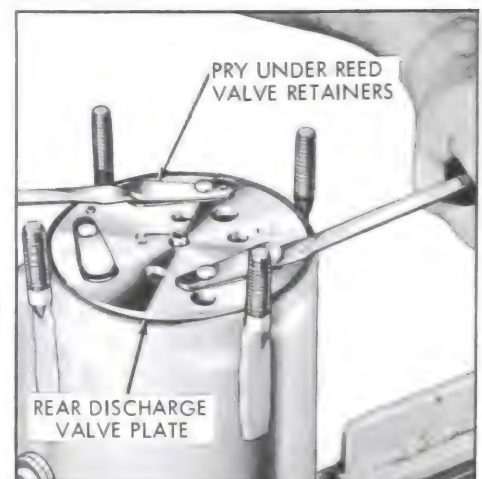

Figure 11-118—Removing Rear Discharge Valve Plate
16. Carefully remove rear discharge valve plate by prying up on assembly as shown with screwdrivers and examine discharge valve reeds and seats. See Figure 11-118. Replace entire assembly if excessively scored or if any one of the three reeds are broken, or seats are damaged.